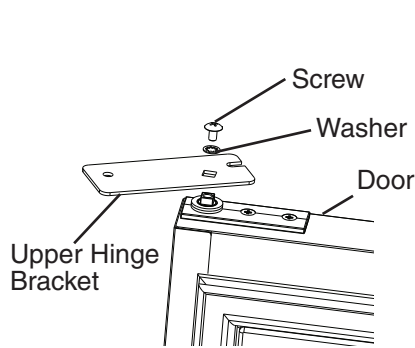

Fig. 15
- 7) While preventing the upper hinge bracket from rotating, remove the upper hinge bracket from the spring cartridge. See Fig. 15. Note which side of the upper hinge bracket is facing up.